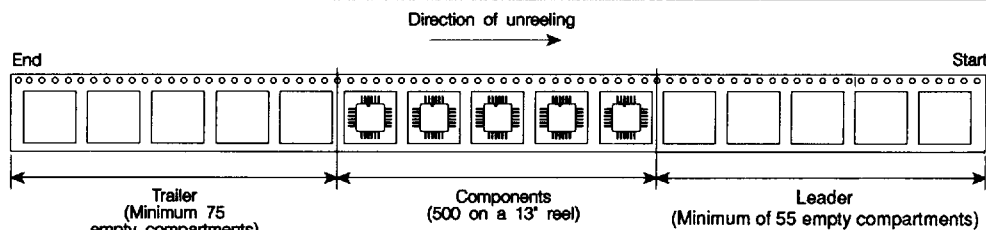

Fig.3 Layout of Tape
- 6.2 There will be a leader of a minimum of 55 empty compartments, at the start of the carrier tape (See Figure 3).
- 6.4 At the end of the tape there will be a trailer of a minimum of 75 empty compartments (See Figure 3).